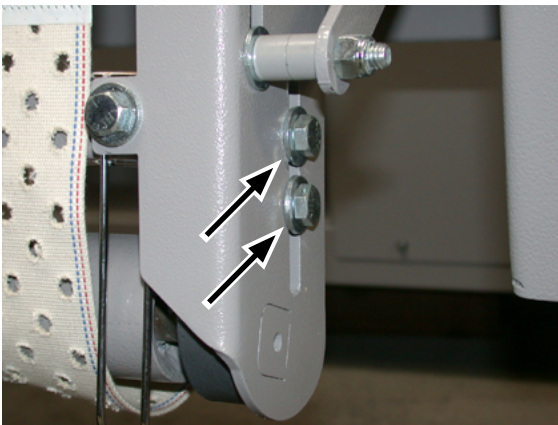

Figure 7-13: Roll bearing mounting bolts on the discharge and rear bypass conveyors.
2. Locate the roll adjustment bearings (Figure 7-13) at the ends of the discharge idler roll.
3. Locate the roll adjustment bearings (Figure 7-13) at the ends of the discharge idler roll.